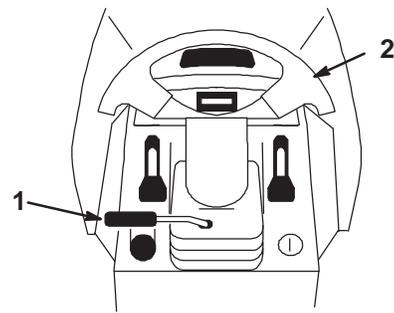

Figure 17
- Lift the tilt lever to release the lock (Fig. 17).